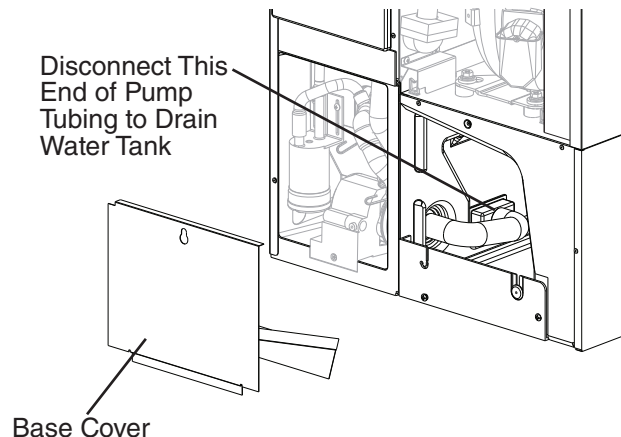

Fig. 13
- 7) Remove the base cover, then disconnect one end of the pump tubing to drain the water tank. See Fig. 13.
- 5) Remove the base cover, then disconnect one end of the pump tubing to drain the water tank. See Fig. 13. After the water tank has drained, reconnect the pump tubing.
- 3) Remove the base cover, then disconnect one end of the pump tubing to drain the water tank. See Fig. 13. After the water tank has drained, reconnect the pump tubing.